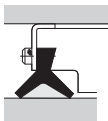

Fig.1 Wiper on model SE and SEB Fixtures
- (1) Foreign matter that gets inside the LM Roller due to inadequate dust-proofing is very difficult to remove and is apt to cause damage to the raceway and the LM Roller. Please take extra care to ensure that the unit is protected from dust and other contaminants.
- (2) The model SE and SEB Fixtures for the LM Roller are equipped with a special rubber wiper that helps provide effective protection against dust and other contaminants. When attaching either Fixture, apply grease between the double lips, as shown in Fig.1, for additional protection.